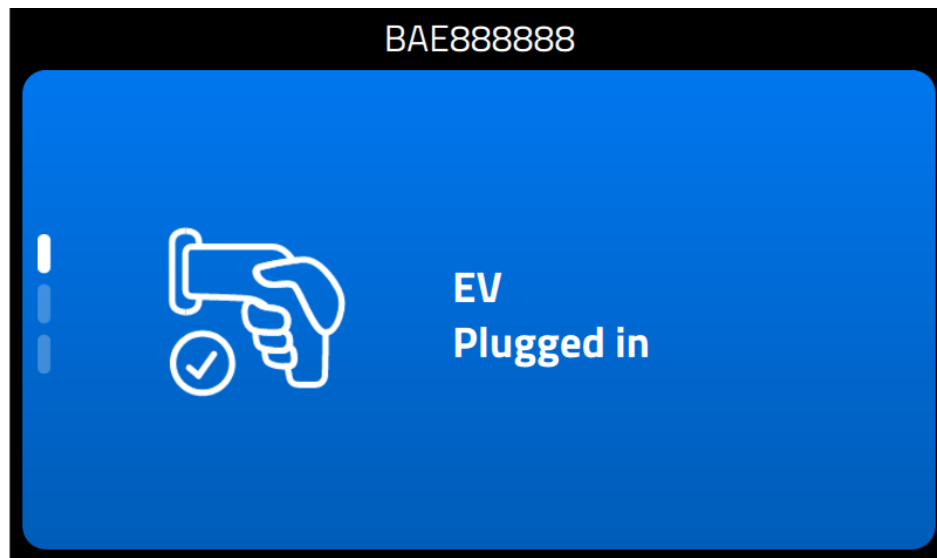

Fig. 57 – EV Plugged in
- Fig. 57 demonstrates a system that has been plugged in and waiting for authorization.